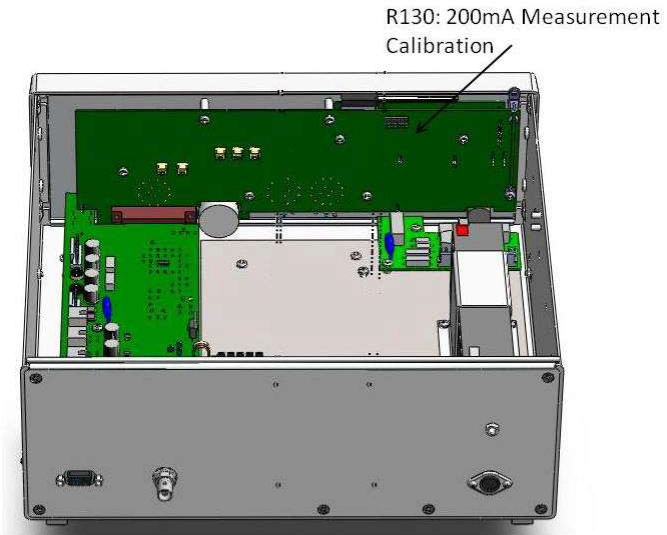

Figure 3.3 200 mA Calibration Potentiometer Position
Refer to the component layout diagrams, Figures 3.3 and 3.4 to find the locations of the adjustment trimpots referred to in these procedures. Each trimpot that is used for calibration is pointed out in each figure.
- 3 Allow the output to settle (approximately 10 seconds). Slowly adjust R130 on the front panel (this can be seen in Figure 3.3) until the front panel measurement matches the actual output current of the instrument measured from the ammeter.